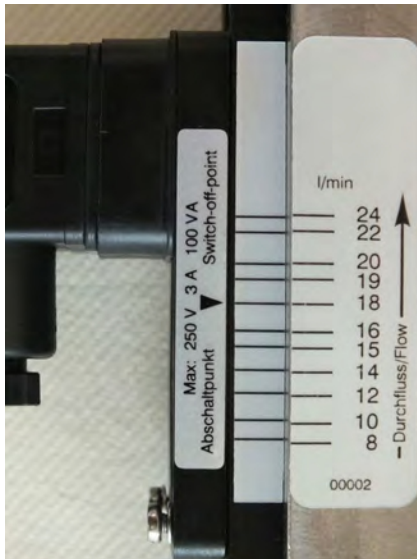

Fig. 33: Reading-off the switch point (sample scale)
1. Make sure that the setting arrow, the scale mark on the additional label on the guide rail and the scale mark of the switchpoint adjustment scale are in alignment. (Fig. 33)